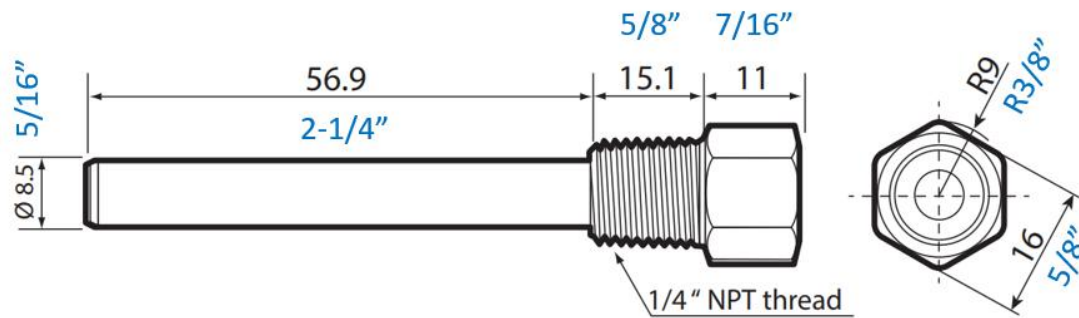

**Figure 14.** Internal Field Connections
1. On the inside of the unit, connect the pre-installed rubber hose on the lower section to the copper piping of the upper section as shown in **Figure 14, Detail A** and secure it with the hose clamp (**BAC part #260058**).
2. Connect the male and the female connector of the wiring between the lower and the upper sections as shown in **Figure 14, Detail B**.